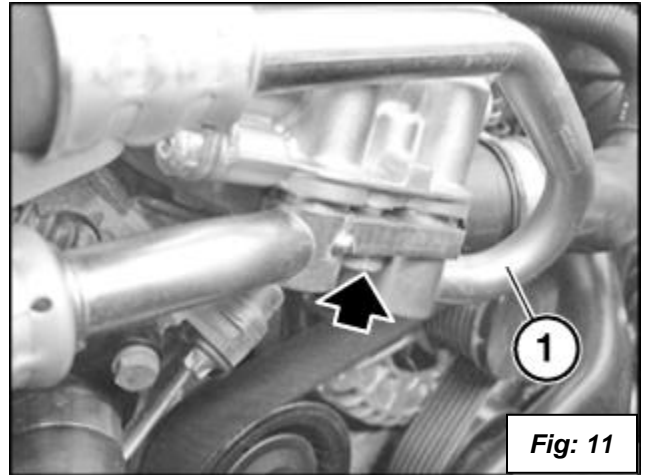

Fig: 11
16. Remove the oil lines (1) from the oil filter control housing by removing the torx bolt marked with an arrow. See figure 11. **Tip:** Use a flex head ratchet and you don't have to remove the fan cowl.